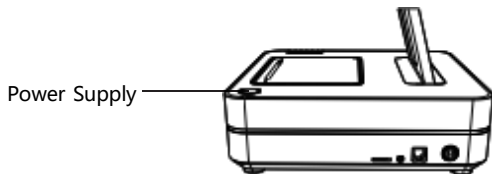

Figure 1
Step 1: Connect the AC power cable with the power adapter as shown in the figure 1, making sure that the contact is good.
Step 1: Plug the network cable into the Ethernet network port RJ45 as shown in Figure 1.
Step 2: As shown in Figure 1, keep pressing down the switch button for 2 seconds and then release it, and the machine will be on and light up within 3 seconds.